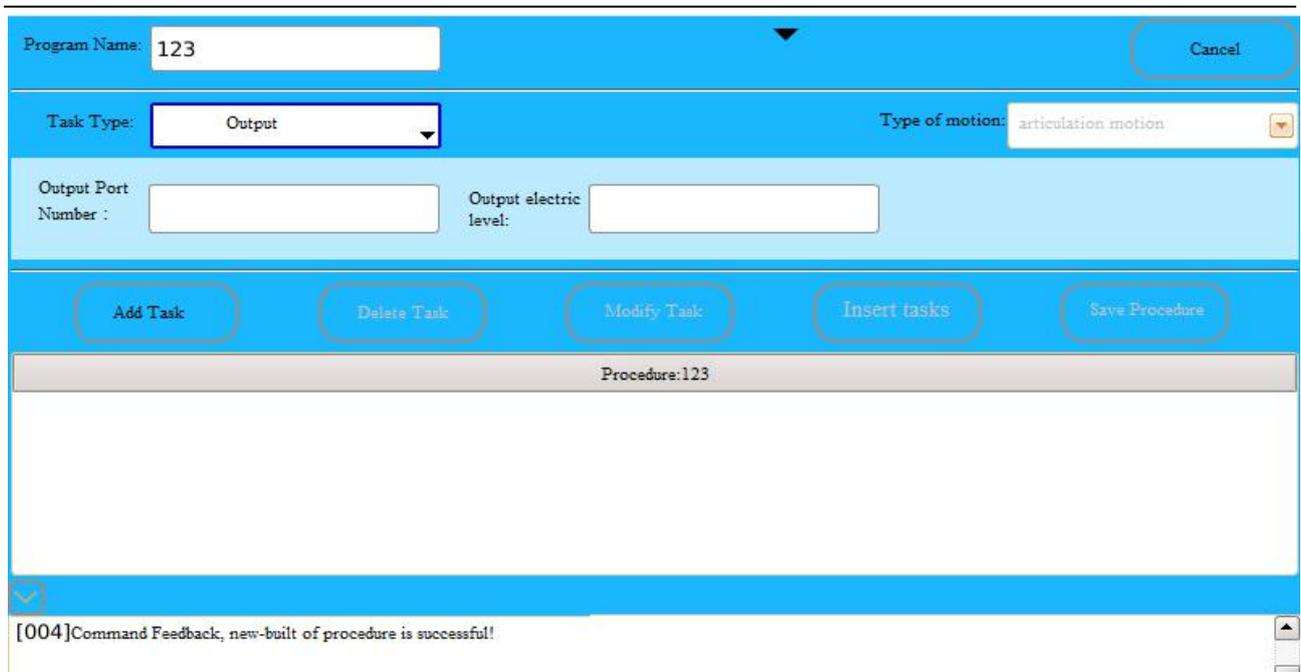

Fig. 4.4 “Output” Task Types
(1) The “Output” task type needs to be used with the I/O port, and the system provides an 18-way I/O port output, including an 8-way relay output and a 10-way collector open circuit. After select the “Output” task type, enter the corresponding value in the “Output port number” and “Input electrical level value” prompt boxes, and click the “Add task” button to complete the operation, as shown in Fig. 4.4.